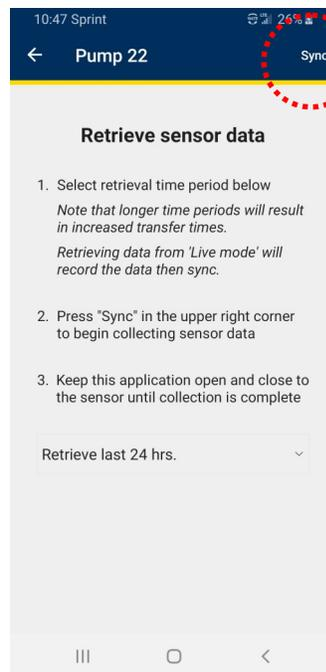

Figure 22
5. Select **Sync** (see figure 22). Once the measured data is synced, the app will automatically go back to the main menu.